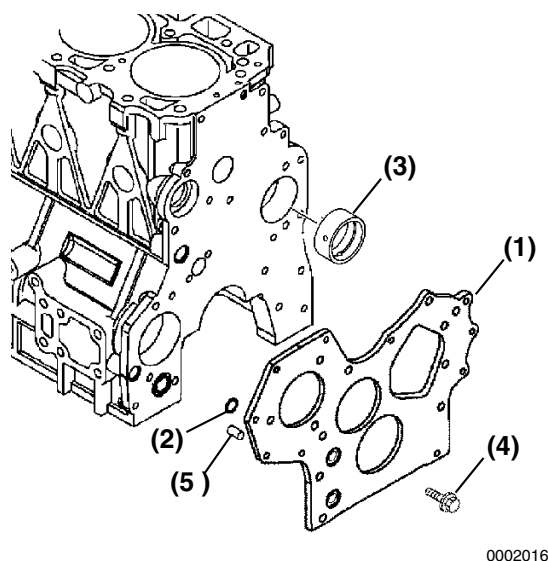

Figure 6-96
6. **TNV84 - TNV88:** Remove the O-ring (**Figure 6-96, (2)**) and dowels (**Figure 6-96, (5)**).